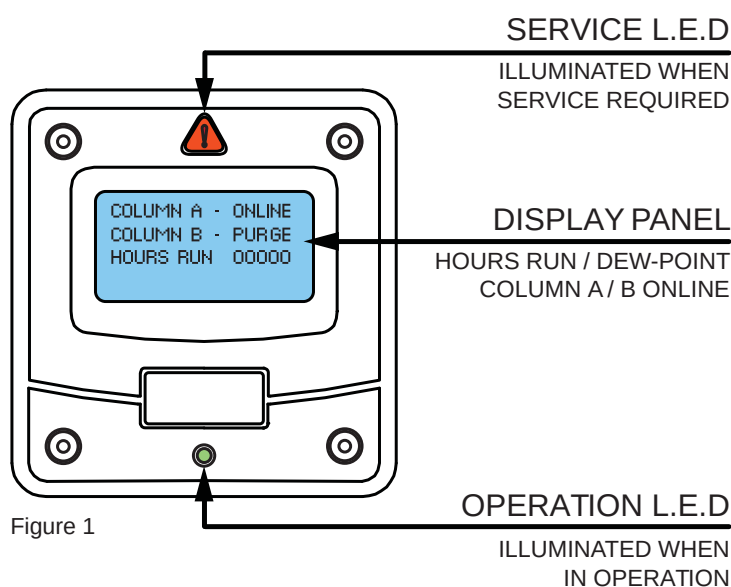

Figure 1
- The set levels for the ES and dewpoint alarm are adjustable and can be accessed by carefully removing the front bezel to expose the PLC and adjustment buttons (see Figure1.)